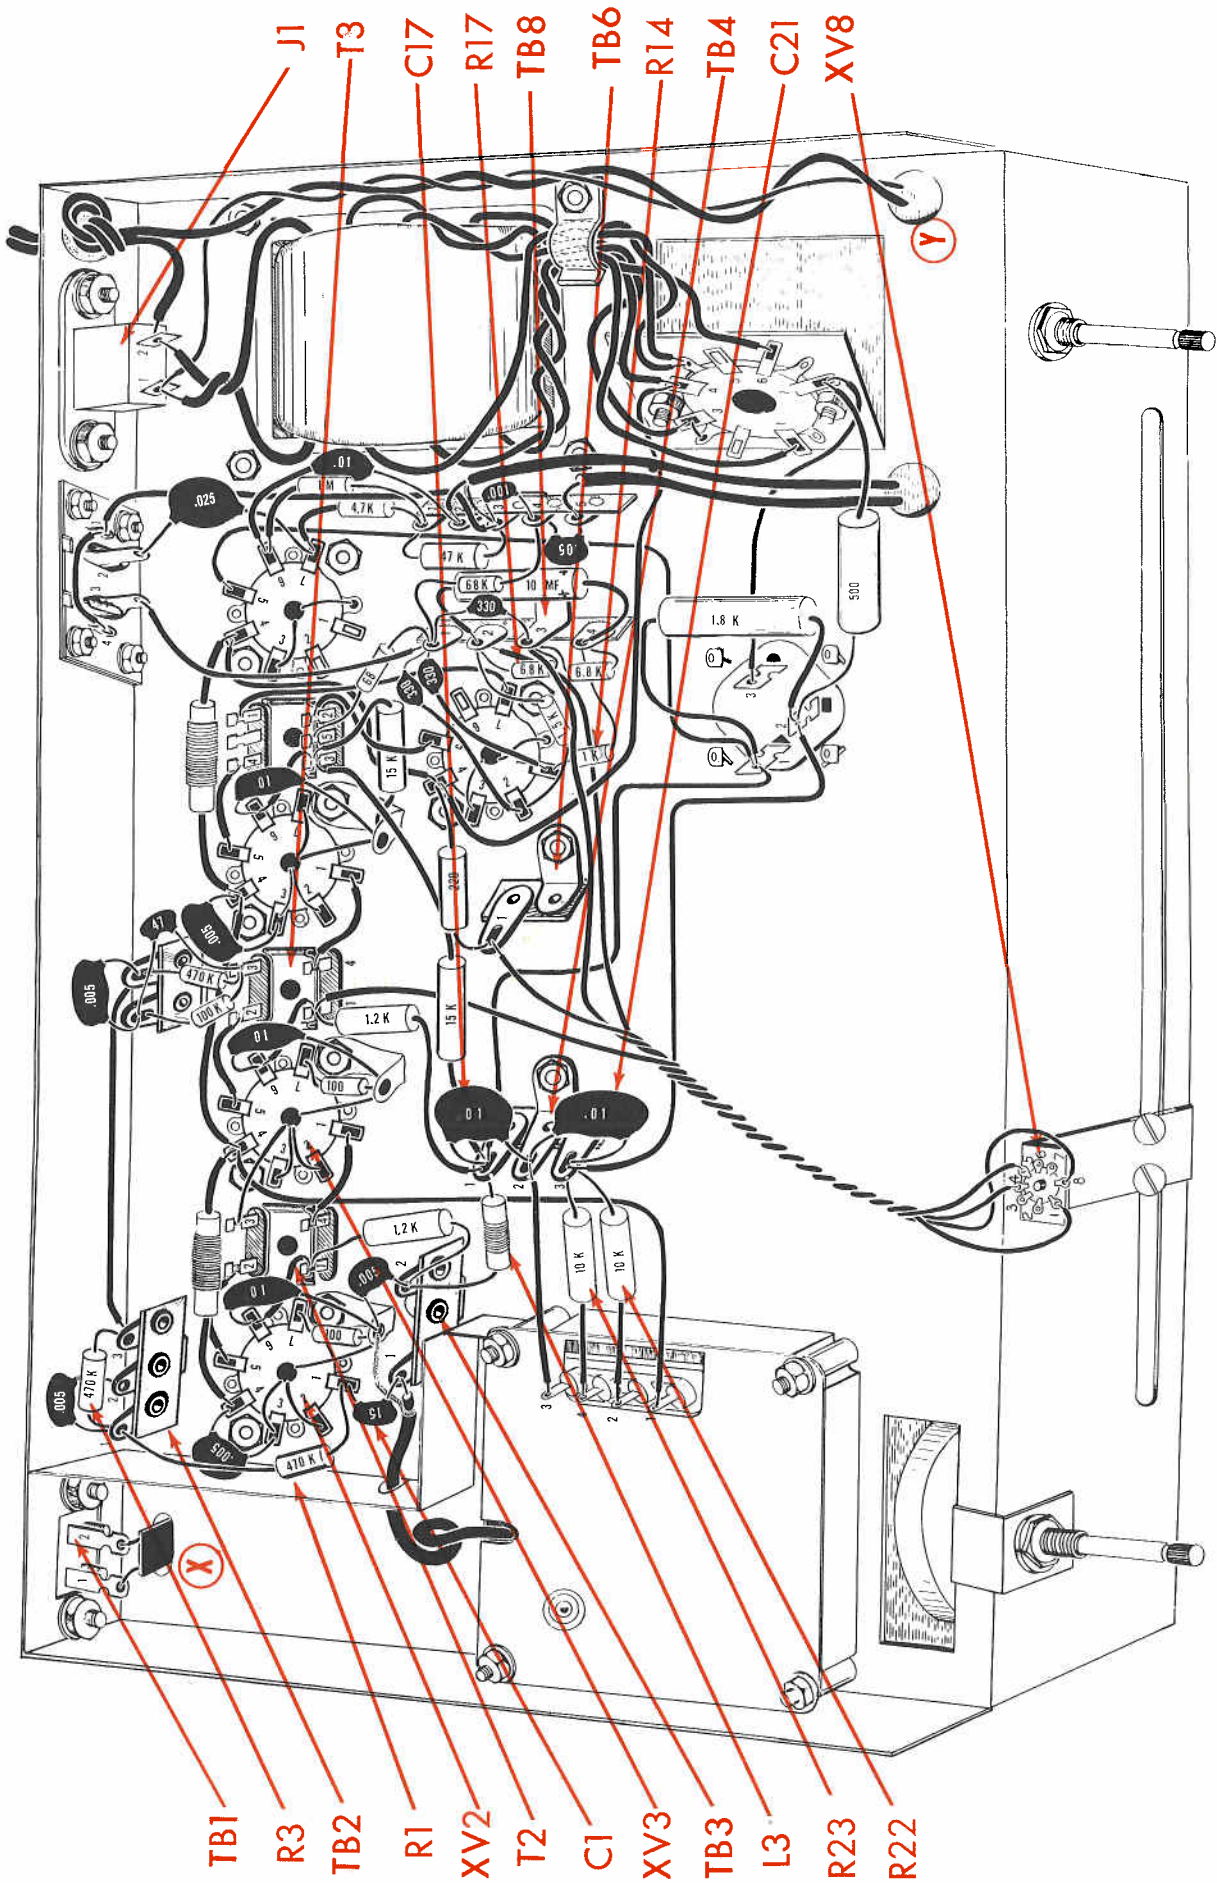

Fig. 6
1. (✓) Fig. 6. Connect a 470K $\Omega$  (yellow, violet, yellow, silver) resistor, R3, from TB2-1 (C) to TB2-3 (S). Cut both leads to 3/4".
2. (✓) Fig. 6. Connect a 470K $\Omega$  (yellow, violet, yellow, silver) resistor, R1, from TB2-1 (S) to XV2-1 (C). Keep lead to XV2-1 as short as possible.
3. (✓) Fig. 6. Push the shielded lead coming from the RF assembly through the hole in the shield. DO NOT CUT THIS LEAD TO SIZE. Curl up the excess length of lead outside the shield, as shown in the drawing. DO NOT STRIP INSULATION OFF THE LEAD. Connect the outer metal shield to ground lug "G" (S). Connect the inner conductor to TB3-1 (C).
4. (✓) Fig. 6. Connect a 15 mfd, disc capacitor, C1, from XV2-1 (S) to TB3-1 (S). Cut both leads to 1/2".
5. (✓) Fig. 6. Connect RF choke, L3, from TB3-2 (S) to TB4-1 (C). Cut both leads to 3/4".
6. (✓) Fig. 6. Connect a .01 mfd (10K) disc capacitor, C17, from TB4-1 (S) to TB4-2 (C). Cut both leads to 1/2".
7. (✓) Fig. 6. Connect a .01 mfd (10K) disc capacitor, C21, from TB4-2 (C) to TB4-3 (C). Cut both leads to 1/2".
8. (✓) Fig. 6. Connect a 2 1/2" piece of black wire from TB4-2 (S) to pin 3 (S) on the RF assembly. Do not overheat the terminal to avoid damage. The numbers of the terminals are not in numerical sequence. Check drawing for location.
9. (✓) Fig. 6. Cut the leads on the two 10K $\Omega$  (brown, black, orange, silver)
10. (✓) Fig. 6. Please note that the four flexible leads are pre-wired to socket XV8 for your convenience. Bend back all the pins on the socket so that they do not make contact with the adjacent ones.
11. (✓) Fig. 6. Cut the four wires from XV8 to the following dimensions. Black 9", Brown 7 1/4", Red 9 3/4", Yellow 9". Twist the four leads up to a length of 5 1/2" from the socket as shown in the drawing. Run the yellow lead under R14, R17 and connect to TB8-2 (S). Connect the black lead to TB8-3 (S), the brown lead to TB6 (S) and the red lead to IF can, T3-1 (S). Handle the fine wire with care, the covering melts very easily. Use a light soldering iron if possible.
12. (✓) Fig. 6. Push the line cord through the hole at the rear of the chassis and tie a knot inside the chassis 10" from the ends so that the line cord cannot pull through the grommet. Separate the two leads by pulling them apart until the knot. Cut one lead to 1 1/2" and connect to J1-2 (S).
13. (✓) Fig. 6. Connect one end of a 10" black lead to J1-1 (S). Twist this lead with the remaining lead of the line cord, run along chassis as shown, and push through hole "Y".
14. (✓) Fig. 6. Strip back both ends of the 300 $\Omega$  twin lead 1/2". Connect one lead from one end to TB1-1 (S) and the other lead from the same end to TB1-2 (S). Without twisting the lead, push the remainder of the lead through hole "X".
15. (✓) Fig. 6. Connect one end of a 10" black lead to J1-1 (S). Twist this lead with the remaining lead of the line cord, run along chassis as shown, and push through hole "Y".
16. (✓) Fig. 6. Strip back both ends of the 300 $\Omega$  twin lead 1/2". Connect one lead from one end to TB1-1 (S) and the other lead from the same end to TB1-2 (S). Without twisting the lead, push the remainder of the lead through hole "X".